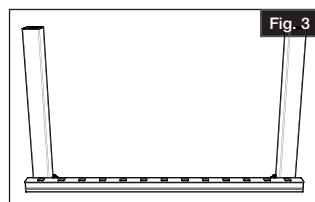
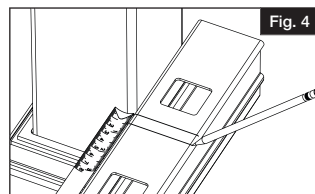
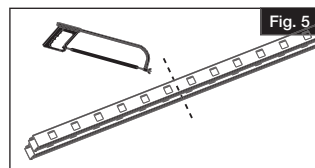

Fig. 3
Fig. 4
Fig. 5
3. With a 1/8" drill bit, pre-drill the holes for the top and bottom brackets (Fig. 3). Remove template (if used).
Place bottom rail across post opening leaving equivalent spacing from the last baluster and post on each end (Fig. 3). Mark 2" from end of post to allow room for bracket width and expansion (Fig. 4). Align top rail with bottom rail and cut both rails with miter box or hacksaw (See blade manufacturer's specs for correct blade) (Fig. 5).
Measure angle – take rail to chop saw and measure angle (Fig. 3). Set saw and record angle.